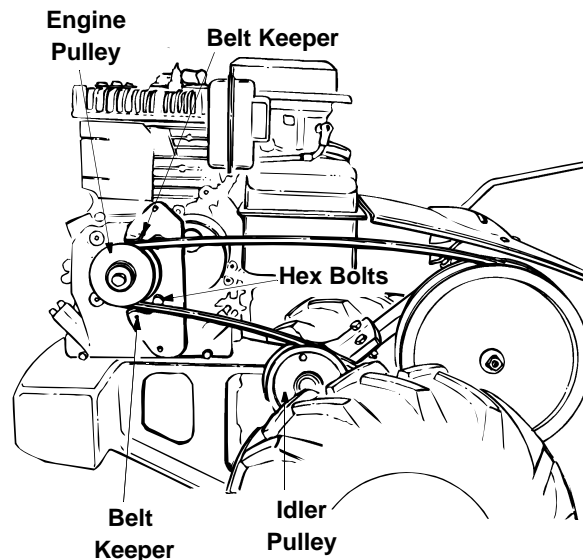

Figure 14
3. Remove the belt keeper assembly located behind the engine pulley by removing two hex bolts and lock washers. See Figure 14.
NOTE: Upon reassembly, make certain the belt is routed over the idler pulley and inside of belt keepers by engine pulley. See Figure 14.